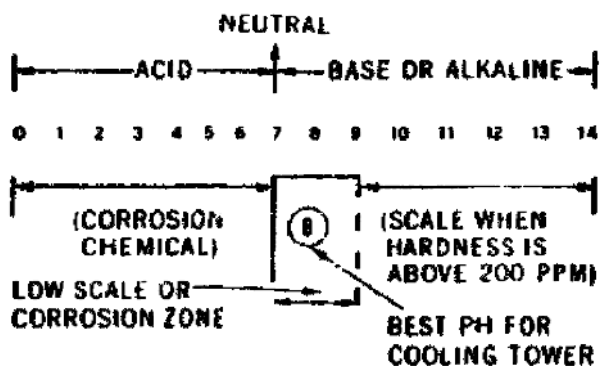

Figure 69. pH scale.
4. Let us compare pH to temperature. A thermometer measures the temperature of a solution, while pH measures the intensity of acid or base in a solution. As you know, pH means potential hydrogen. When a hydrogen atom has lost its electron (H+), it becomes a positive hydrogen ion. When a great many of these hydrogen atoms make this change, the solution will become highly acid and attack metals. When the hydrogen atom gains electrons, the solution will be base and have a pH value from 7.1 to 14. A base solution contains more hydroxyl ions (OH-). Scale will form when a base solution is exposed to a temperature rise, providing the hardness is 200 parts per million or higher. Notice the recommended pH for cooling towers in figure 69.